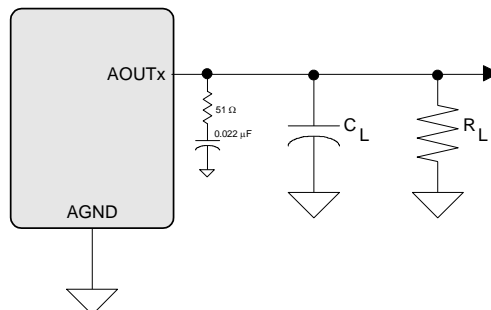

Figure 3. Headphone Output Test Load
(Test conditions (unless otherwise specified): Input test signal is a full-scale 997 Hz sine wave; measurement bandwidth is 10 Hz to 20 kHz; Sample Frequency = 48 kHz and 96 kHz; test load $R_L = 10\text{ k}\Omega$, $C_L = 10\text{ pF}$ for the line output (see Figure 3), and test load $R_L = 16\ \Omega$, $C_L = 10\text{ pF}$ (see Figure 3) for the headphone output.
Test conditions (unless otherwise specified): Input test signal is a full-scale 997 Hz sine wave; measurement bandwidth is 10 Hz to 20 kHz; Sample Frequency = 48 kHz; test load $R_L = 10\text{ k}\Omega$, $C_L = 10\text{ pF}$ (see Figure 3).
Test conditions (unless otherwise specified): Input test signal is a full-scale 997 Hz sine wave; measurement bandwidth is 10 Hz to 20 kHz; Sample Frequency = 48 kHz; test load $R_L = 16 \Omega$, $C_L = 10 \text{ pF}$ (see Figure 3).
6. See Figure 3. R_L and C_L reflect the recommended minimum resistance and maximum capacitance required for the internal op-amp's stability and signal integrity. In this circuit topology, C_L will effectively move the band-limiting pole of the amp in the output stage. Increasing this value beyond the recommended 150 pF can cause the internal op-amp to become unstable.